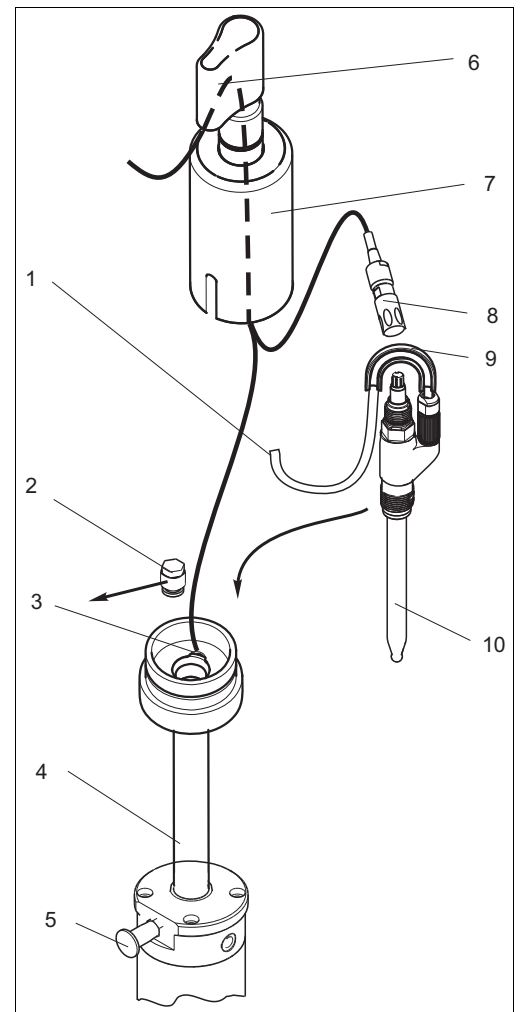

Fig. 17: Liquid KCl electrolyte sensor installation
2. Remove the splash protection cap (→ Fig. 17, pos. 6) and the KCl hood (pos. 7).
- In case of symmetrical pH measurement, you must push the PML connector onto the PML connection (PML = potential matching line, pos. 3).